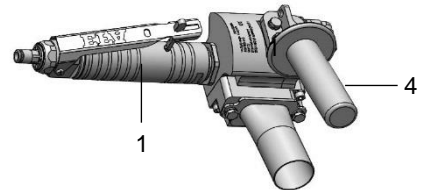

Fig. 6.1 – Operating the switch
- 1) Hold the device firmly by its handles (1 and 4). *See Fig. 6.1.*